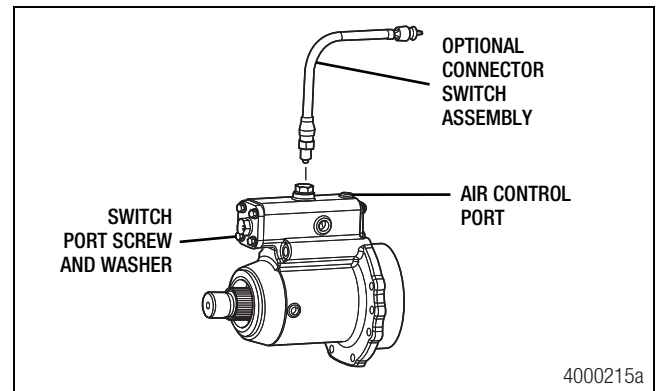

Figure 8.4
1. Remove the screw and washer from the end of the PTO cap. Figure 8.4.
1. Remove the switch port screw and washer. Figure 8.4.